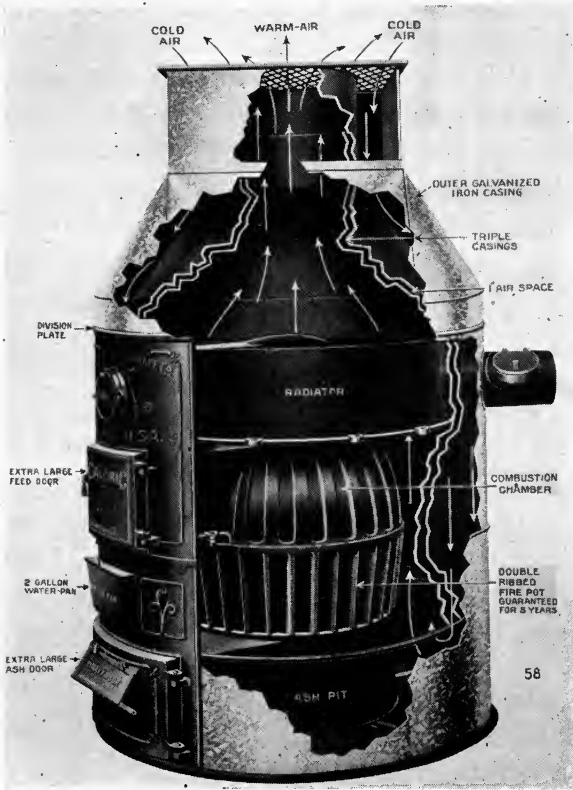

FIG. 28. Pipeless furnace.
62. Pipeless Furnaces. The pipeless furnace works on the same principle as the one with pipes (Fig. 28). One large opening above the furnace lets the heat in to some central room, and from here it circulates into all other rooms not closed off from the central room. The cold-air shaft may be around the opening for heated air.